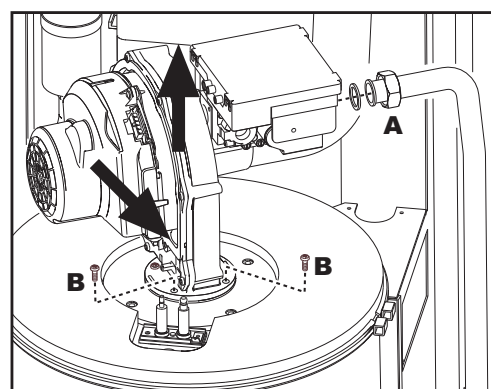
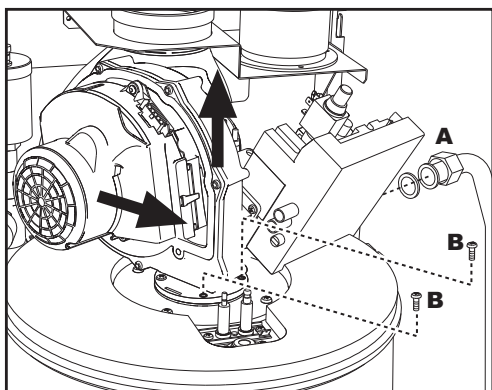

fig. 29 - model ENERGY TOP W 70 - W 80
fig. 30 - model ENERGY TOP W 125
4. Unscrew the gas valve (e) fixing ring fig. 29 "A" fig. 30.
5. Undo the two fixing screws "B" and remove the fan assembly as indicated in fig. 29 for the model **ENERGY TOP W 70 - W 80** and in fig. 30 for the model **ENERGY TOP W 125**.